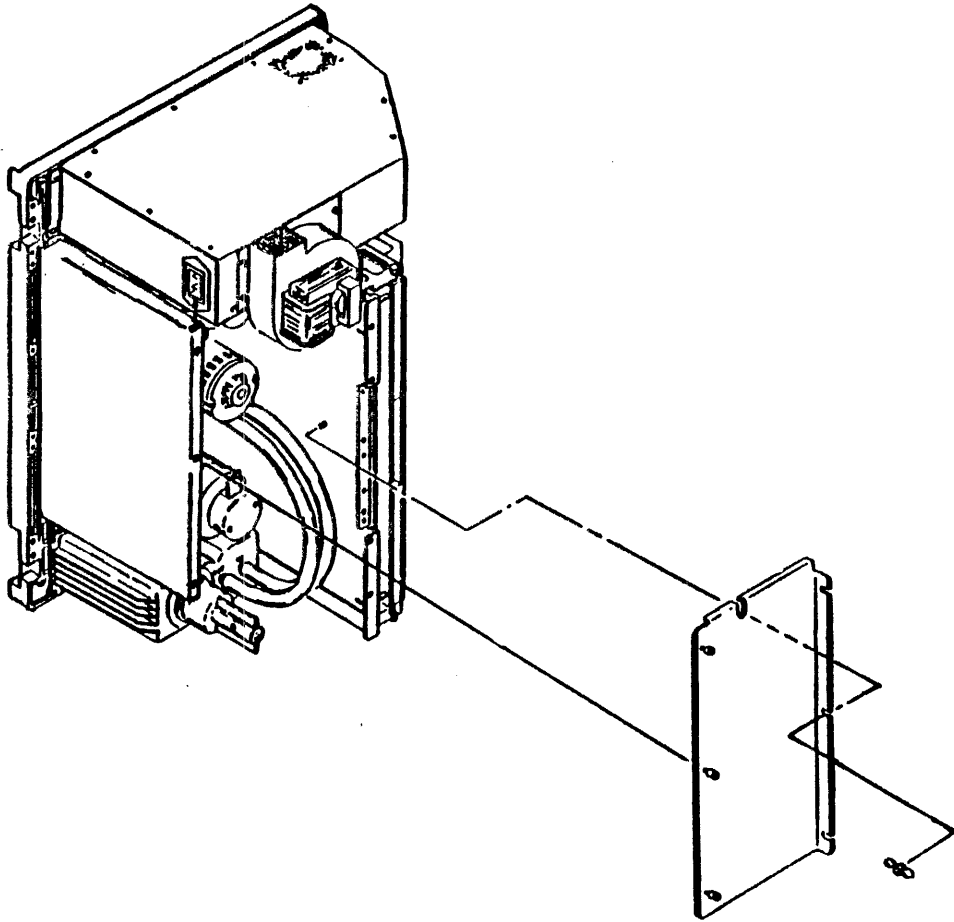

Figure 6-27. DRIVE COVER ASSEMBLY
1. Loosen wing nuts and screws securing drive cover assembly and remove cover (Figure 6-27). The drive cover assembly consists of drive cover with attached foam strips and grommet.